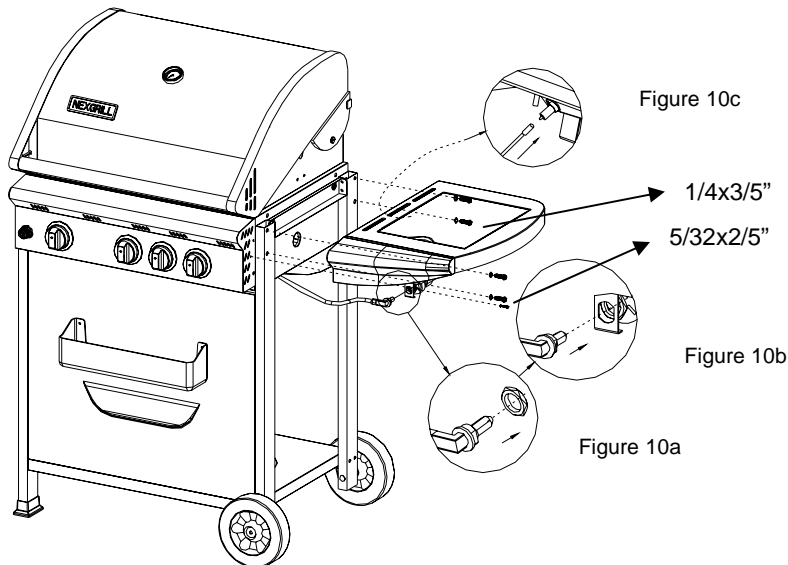

Figure 10
1. Attach side burner to grill cart by using (4) 1/4x3/5" Phillips head screws with (4) 1/4" lock washers. Then use (1) 5/32" Phillips head screw and (1) 5/32" lock washer to attach side burner control panel to main control panel. (Fig.10)